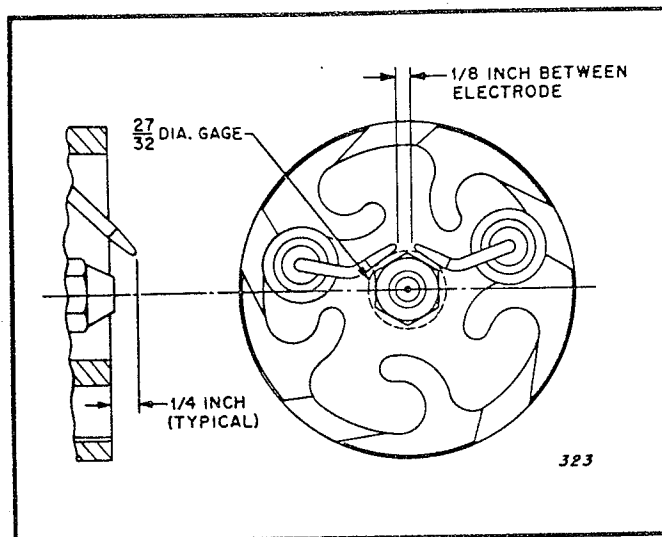
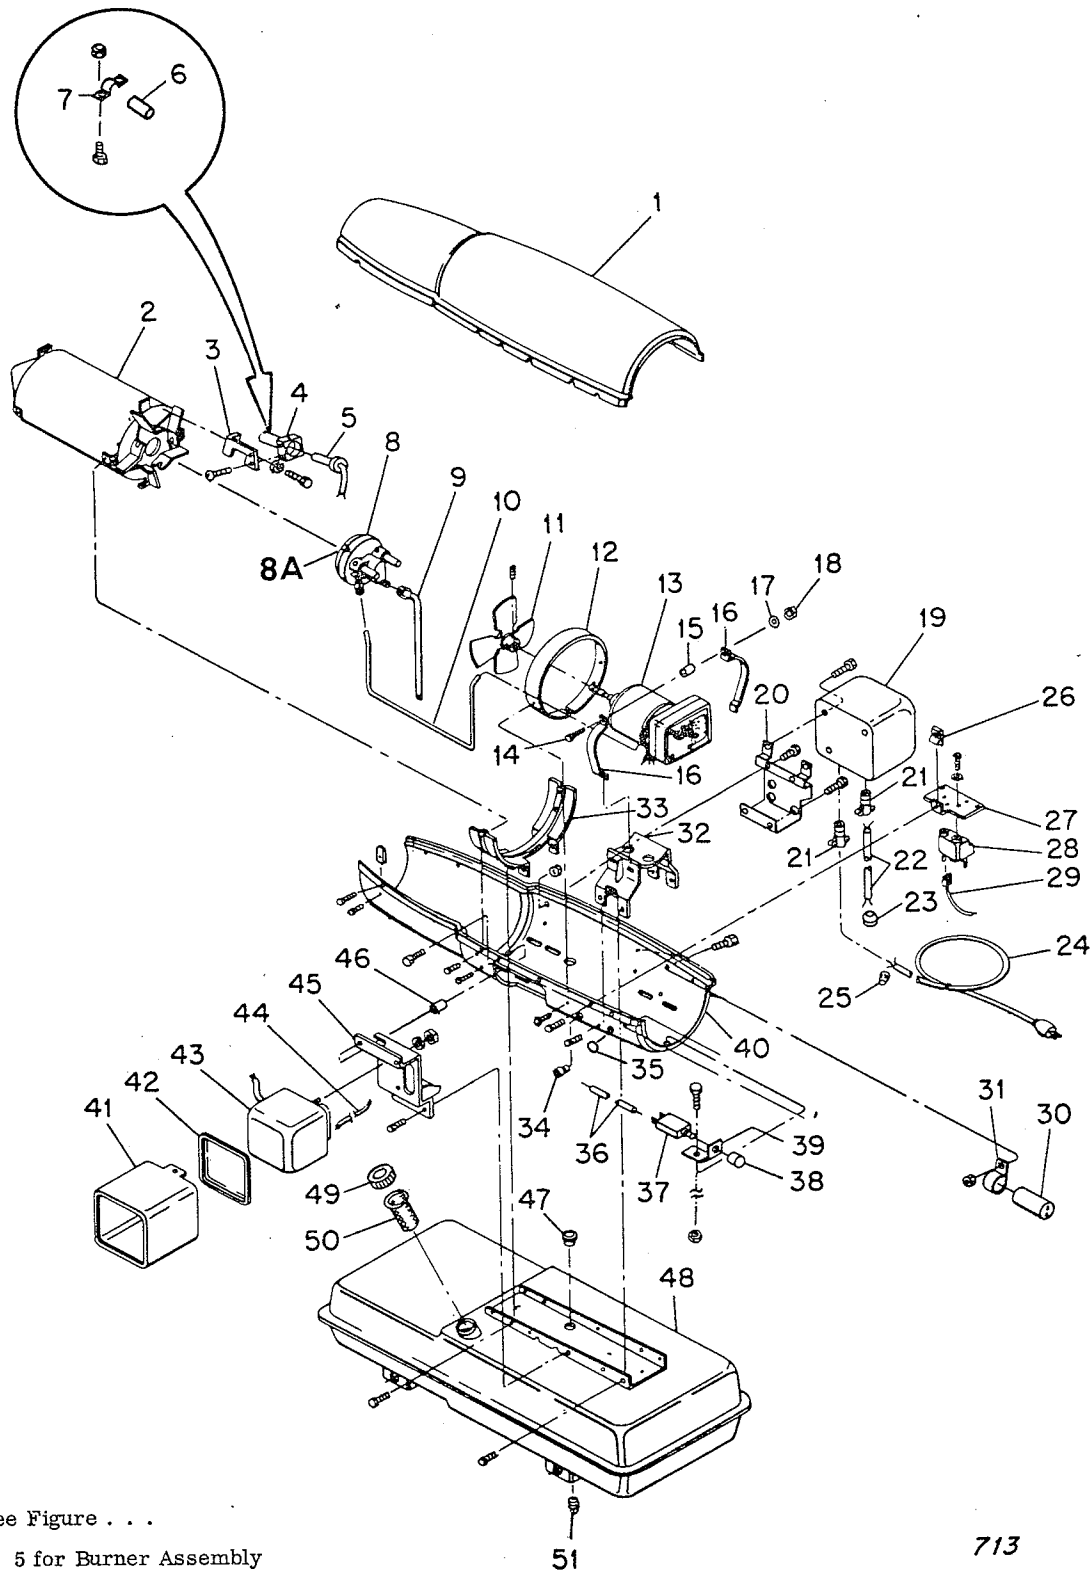

Figure 1. Electrode Settings
Figure 4. Portable Heater, Exploded View, General Assembly
b. Loosen the 4 screws at the sides and lift off upper shell (1, fig. 4). Disconnect the fuel filter assembly (9) from the burner assembly (8) and withdraw filter assembly. Immerse in clean fuel and rinse several times. Blow out through fitting end. Replace securely in tank and connect to burner.
Reassemble burner in heater, after checking electrode settings according to manual instructions, Figure 1, making sure burner is snug against combustion chamber backplate. Turn counterclockwise as far as possible and tighten screw (8A, figure 4). Tighten connections on air line and fuel filter securely and push electrode leads into burner head electrodes, until they snap into place. Replace upper shell.
b. Electrodes out of position - see Figure 1.